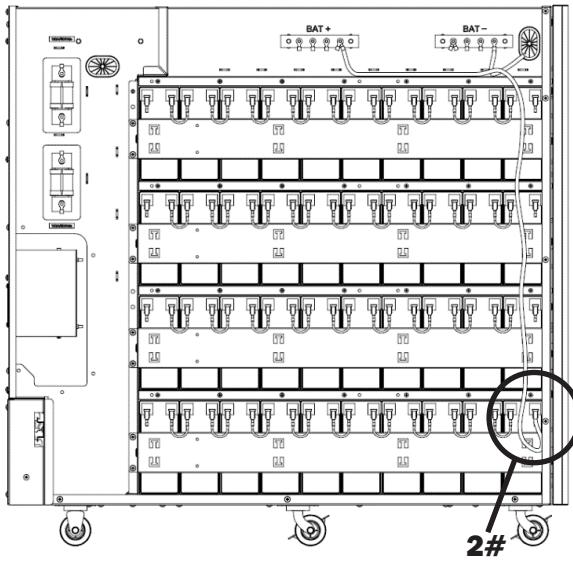

Figure 5-16A
21. Connect group 1 battery 1+ to + battery bus bar (BAT +) (Figure 5-16A).